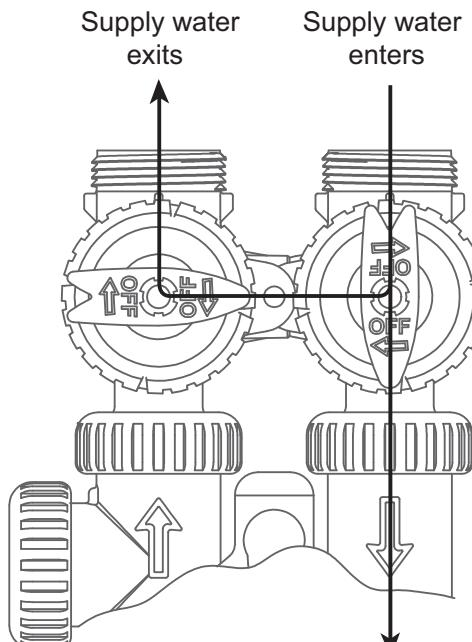

Figure 3 Diagnostic Position
- Diagnostic Position:** The inlet handle points toward the control valve and the outlet handle points to the center of bypass valve. Untreated supply water is allowed to flow to the system and to the building, while not allowing water to exit from the. Refer to Figure 3. This allows the service technician to draw brine and perform other tests without the test water going to the building.